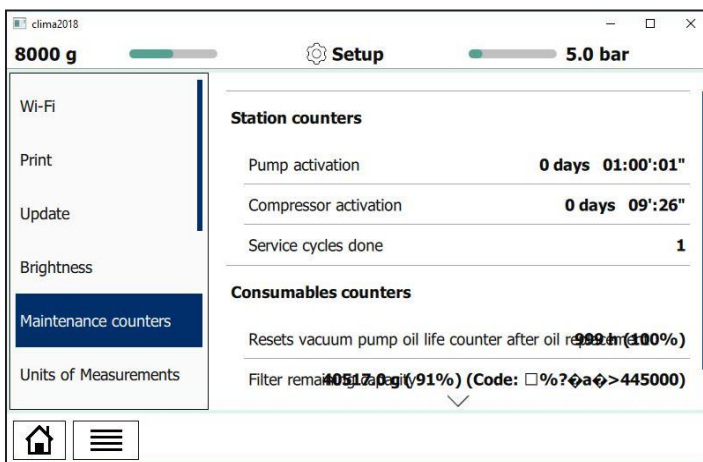

Fig. 28: Maintenance counters
1. Open the lid of the printer as shown in Fig. 28